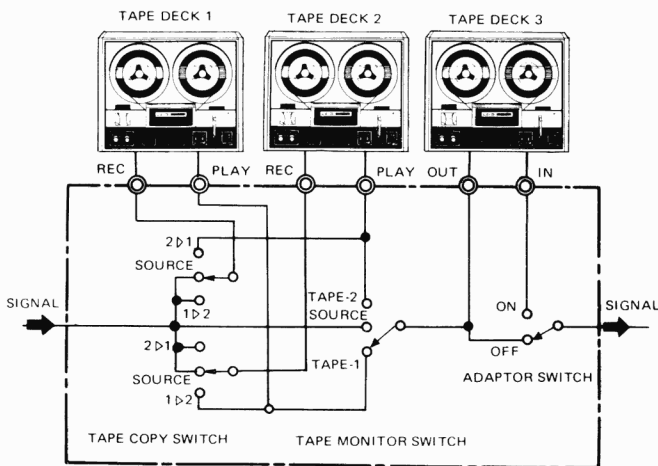

Fig. 10
1. Depending on the TAPE PLAY (1, 2) or ADAPTOR IN terminals to which the tape deck is connected, set the TAPE MONITOR switch to TAPE 1 or TAPE 2 or set the ADAPTOR switch to ON (⊏) (see Fig. 10).